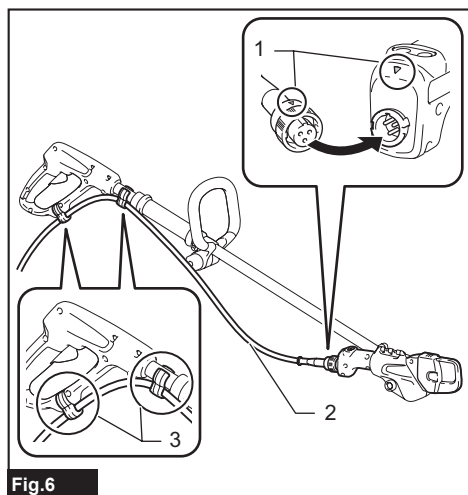

Fig.6
► **Fig.6:** 1. Triangular marks 2. Connection cord